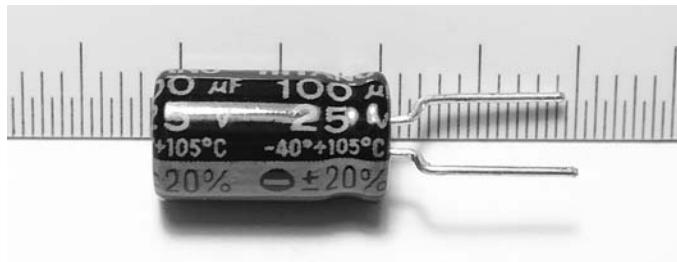

Figure 4-14: Electrolytic capacitor
*Electrolytic capacitors*, like the one shown in Figure 4-14, are physically larger than ceramic types, offer increased capacitance, and are polarized. A marking on the cover shows either the positive (+) side or negative side (−). In Figure 4-14, you can see the stripe and the small negative (−) symbol that identifies the negative side. Like resistors, capacitors also have a level of tolerance with their values. The capacitor in Figure 4-14 has a tolerance of 20 percent and a capacitance of 100  $\mu$ F.